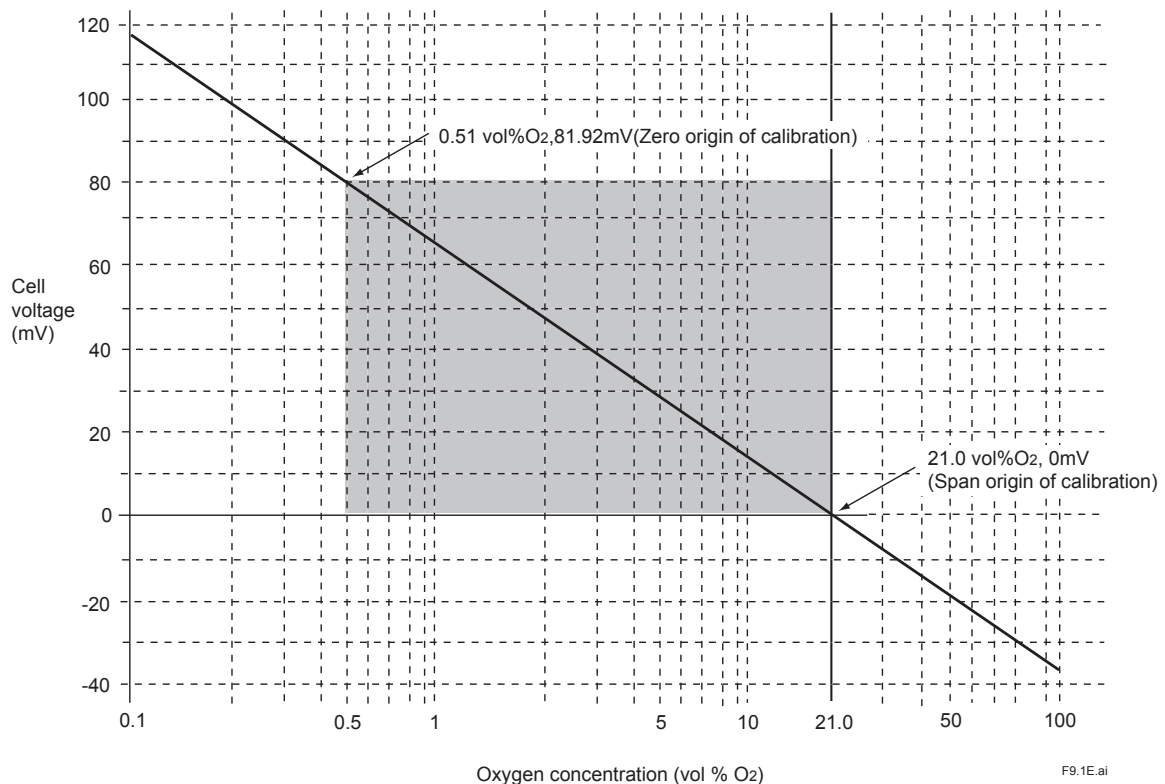

Figure 9.1 Oxygen Concentration in a Measurement Gas vs. Cell Voltage (21 vol%O₂ Equivalent)
With this analyzer, the sensor (zirconia element) is heated up to 750°C, so Equation (2) is valid. At that point, the relationship as in Figure 9.1 is effected between the oxygen concentration of the measurement gas in contact with the positive electrode and the electromotive force of the sensor (cell), where a comparison gas of air is used on the negative electrode side.